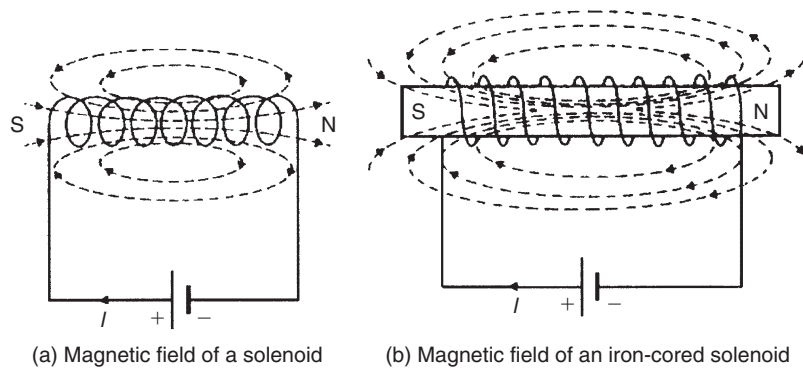

Figure 8.4
A magnetic field set up by a long coil, or **solenoid**, is shown in Fig. 8.4(a) and is seen to be similar to that of
a bar magnet. If the solenoid is wound on an iron bar, as shown in Fig. 8.4(b), an even stronger magnetic field is produced, the iron becoming magnetized and behaving like a permanent magnet. The direction of the magnetic field produced by the current I in the solenoid may be found by either of two methods, i.e. the screw rule or the grip rule.
- (a) **The screw rule** states that if a normal right-hand thread screw is placed along the axis of the solenoid and is screwed in the direction of the current it moves in the direction of the magnetic field **inside** the solenoid. The direction of the magnetic field **inside** the solenoid is from south to north. Thus in Figs 8.4(a) and (b) the north pole is to the right.